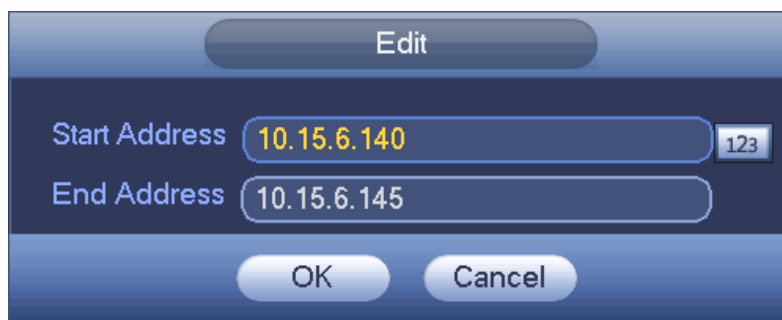

Figure 4-69
- Edit: Click it to edit start address and end address. See Figure 4-69. System can check the IP address validity after the edit operation and implement IPv6 optimization.